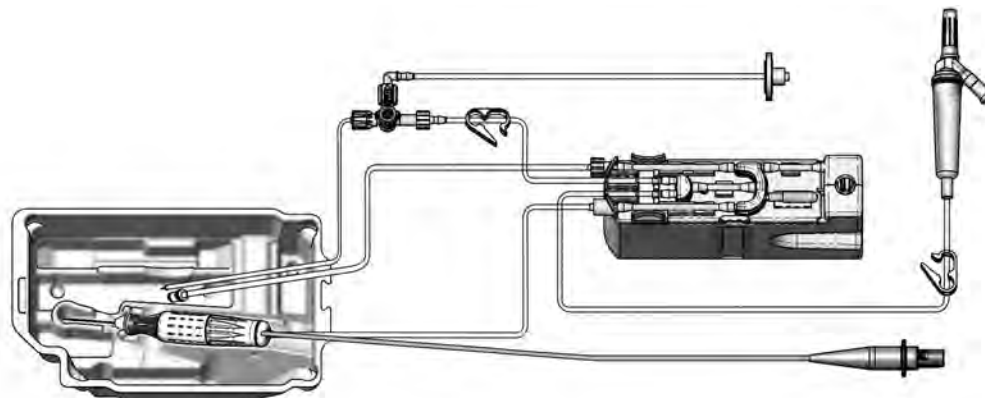
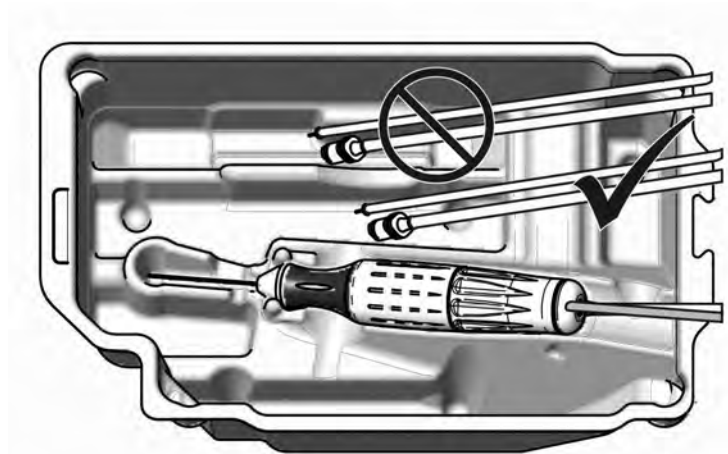

Figure 4.13. Complete Vitesse™ tubing connections and setup.
Figure 4.14. **Proper positioning of infusion and aspiration lines for effective Easy Prime operation.**
- f. Arrange the pre-connected tubing set with cassette, bottle spike, air tubing filter, and actuation connector toward the system front. In a later step, the Vitesse™ priming tray will be placed at the other end with the tubing set in the middle as shown in Figure 4.13. (Scrub Nurse)
- j. To ensure effective system priming, tuning, and Vitesse™ operation, verify all tubing connections are made in accordance with Figure 4.13. For use of the **EASY PRIME** function, it is important that the infusion cannula and second aspiration line are positioned in the bottom of the tray insert, as shown in Figure 4.14. (Scrub Nurse)